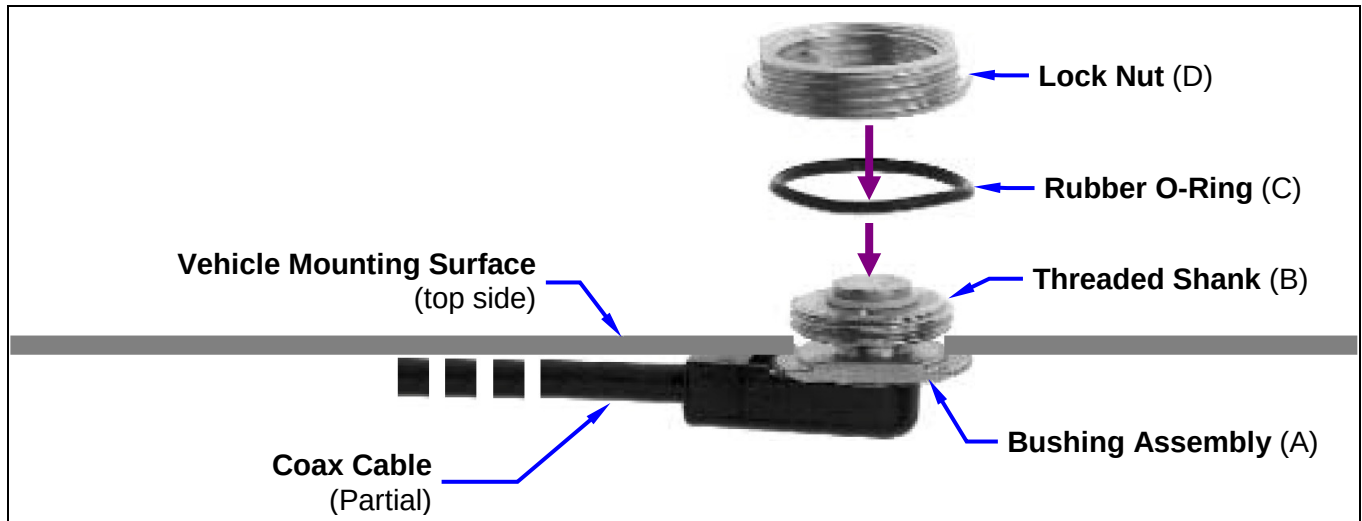
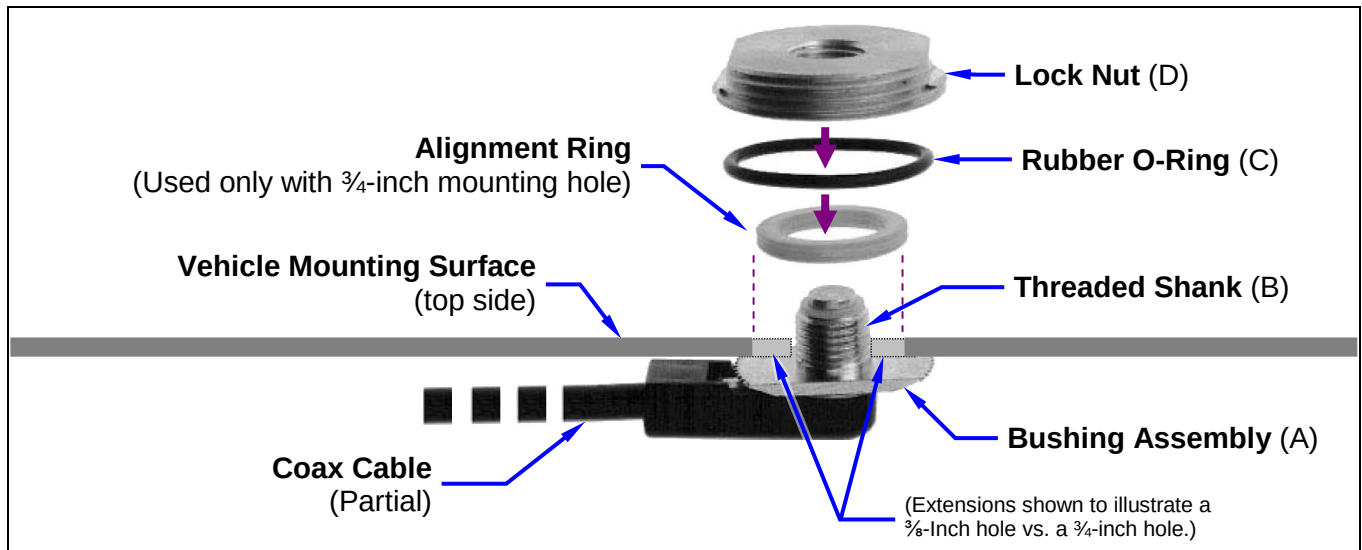

Figure 6-4: Installing a Standard $\frac{3}{4}$ -Inch NMO Antenna Mount
Figure 6-5: Installing a Thick-Roof NMO Antenna Mount
11. As illustrated in Figure 6-4 and Figure 6-5, add the O-ring (C) and lock nut (D) to the top of the mount's bushing assembly (A). With the O-ring in the groove in the underside of the lock nut, thread the lock nut onto the bushing assembly. Be sure the O-ring remains in the groove before tightening the lock nut.
2. Place the gasket included with the antenna element (not pictured in Figure 6-4 or Figure 6-5) around the mount and against the surface of the vehicle. If a lubricant or sealant was included with the gasket, apply it to the gasket before placing the gasket.